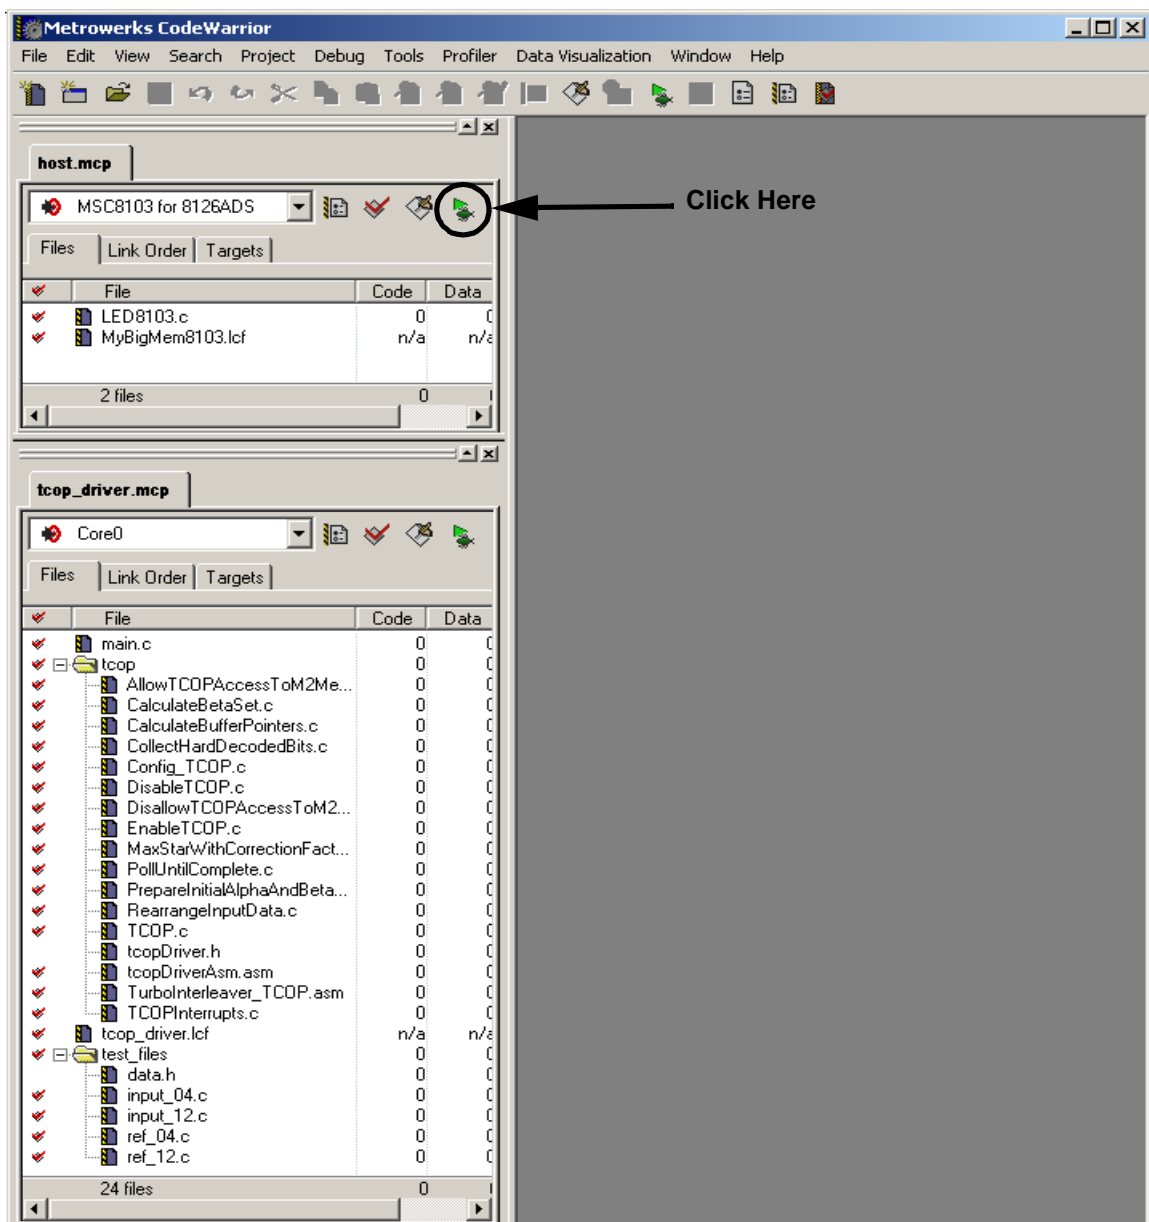

Figure 2. TCOP Driver CodeWarrior Projects
2. Open the `host.mcp` file. A window similar to that shown in **Figure 2** appears, except that the `tcop_driver` project is not yet open.
3. Click on the Debug icon at the top of the `host.mcp` project window (see **Figure 2**). CodeWarrior should automatically build this project (if the build settings in the IDE preferences are set to **ALWAYS BUILD BEFORE RUNNING**), open the `tcop_driver` project, build the `tcop_driver` project, and open the debug windows for both projects.